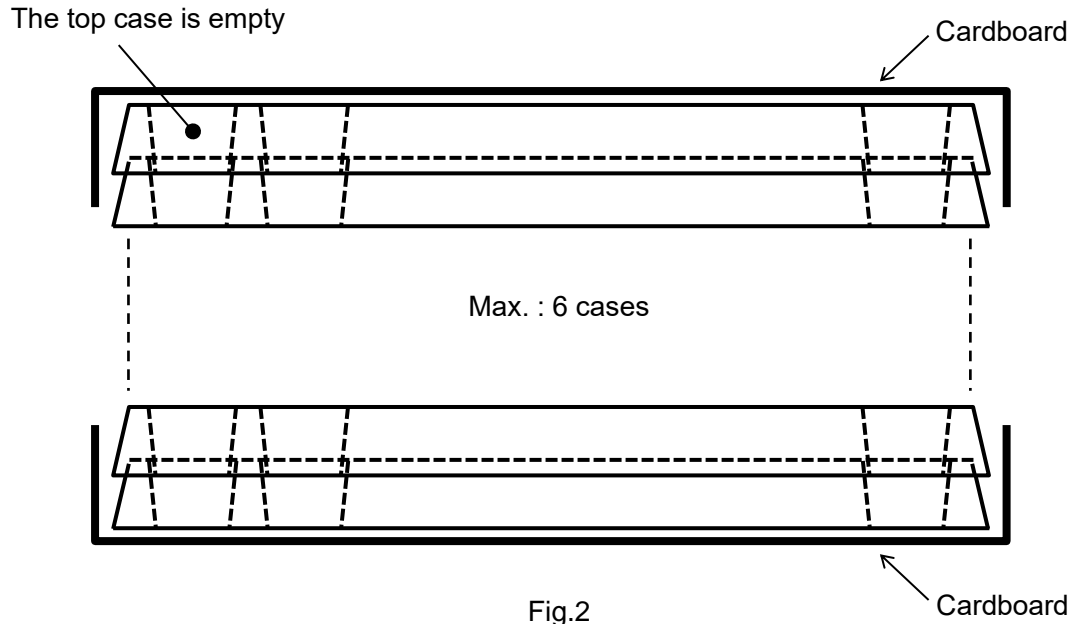

Fig.2
- (1) Put PD2 (Max. : 100 pcs.) in the packing case.
- (2) Pile up 6 cases (the top case is empty), cover top and bottom with the cardboard and fix 2 places with rubber bands. (Refer to Fig.2)